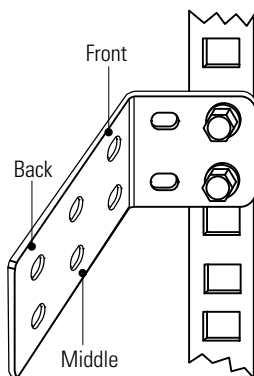

Figure 7. Positioning, Front-to-Back
1. Determine the front-to-back position and select the appropriate mounting holes on the long flange (see Figure 7).